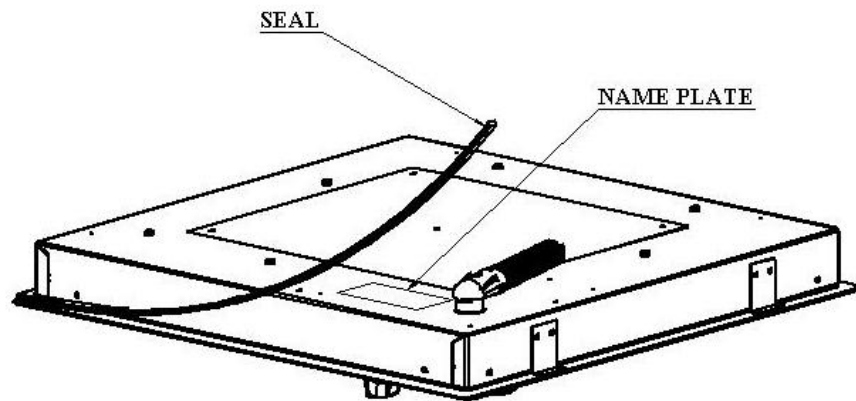

Fig. 5
- Turn the cooktop over and correctly position the seal under the edge of the cooktop itself so that the outer side of the seal perfectly matches the outer peripheral edge of the cooktop (refer to Fig. 5). The ends of the strips must fit together without overlapping.